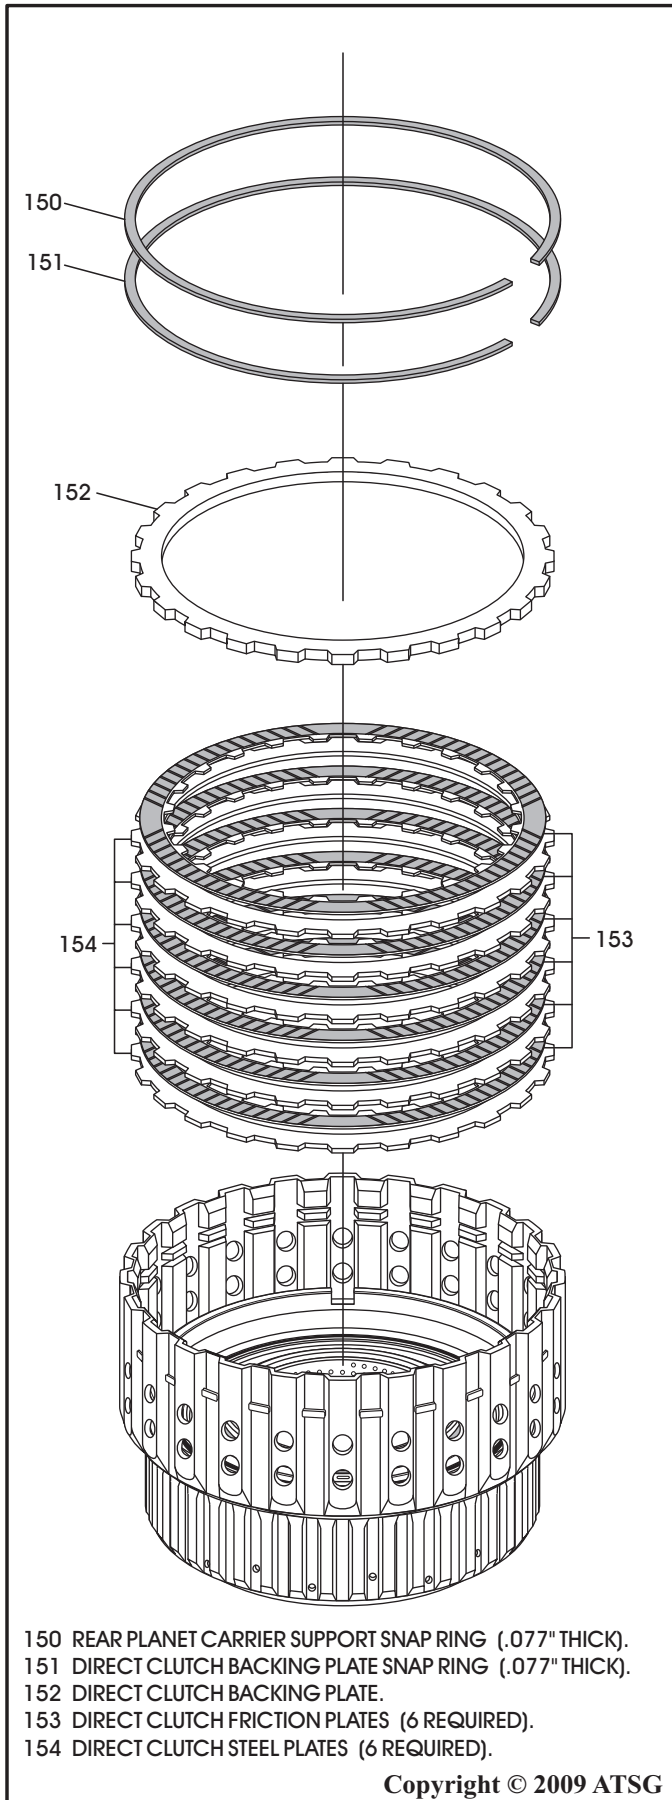

Figure 144
12. Install the direct clutches beginning with a steel plate and alternating with a friction plate until you have installed six of each plate, as shown in Figure 144.
13. Install the direct clutch backing plate into direct clutch housing, as shown in Figure 144.
14. Install the direct clutch backing plate snap ring, as shown in Figure 144.